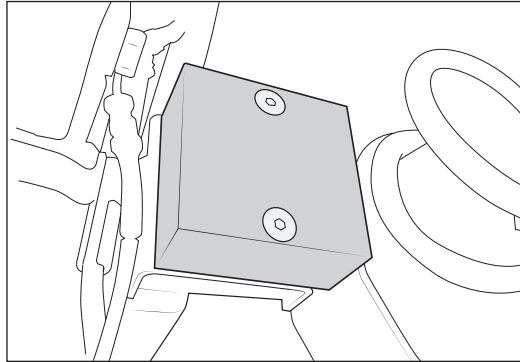

Figure 20
15. Install rear lower bumpstop spacers onto axle pads. Feed countersunk M10 bolts through spacers and existing holes in axle pads. Install flange nuts to bottom side of axle pads. Torque until there's only slight deformation of material at top of holes in spacer blocks (Fig 20).